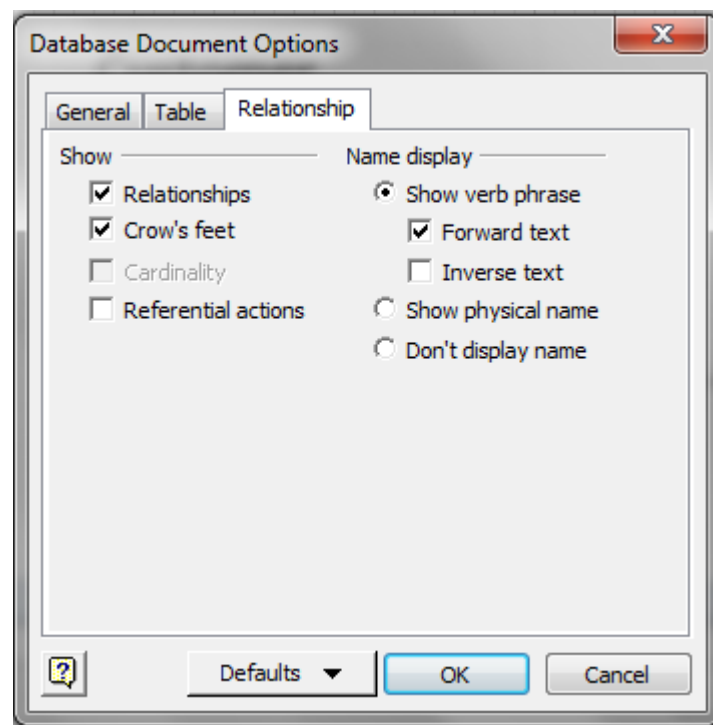

Figure 27: **Relationship** Area of the Database Document Options Window
1. Set the Cardinality Display Options: To enable the crow's feet symbols, you need to select them in the **Relationship** area of the Database Document Options window (**Database** → **Display Options...**). Set the relationship options as shown in Figure 27. Make these settings permanent by choosing the “Set As” option that appears after you click the **Defaults** button.
- In the Display Options window (**Database → Display Options**), you can display one or both relationship names on the diagram. Displaying both names can make an ERD too cluttered. It is customary to display the verb phrase rather than the inverse phrase. As shown in Figure 27, the “Forward text” in the **Relationship** area corresponds to the *Verb phrase* in the Database Properties window.